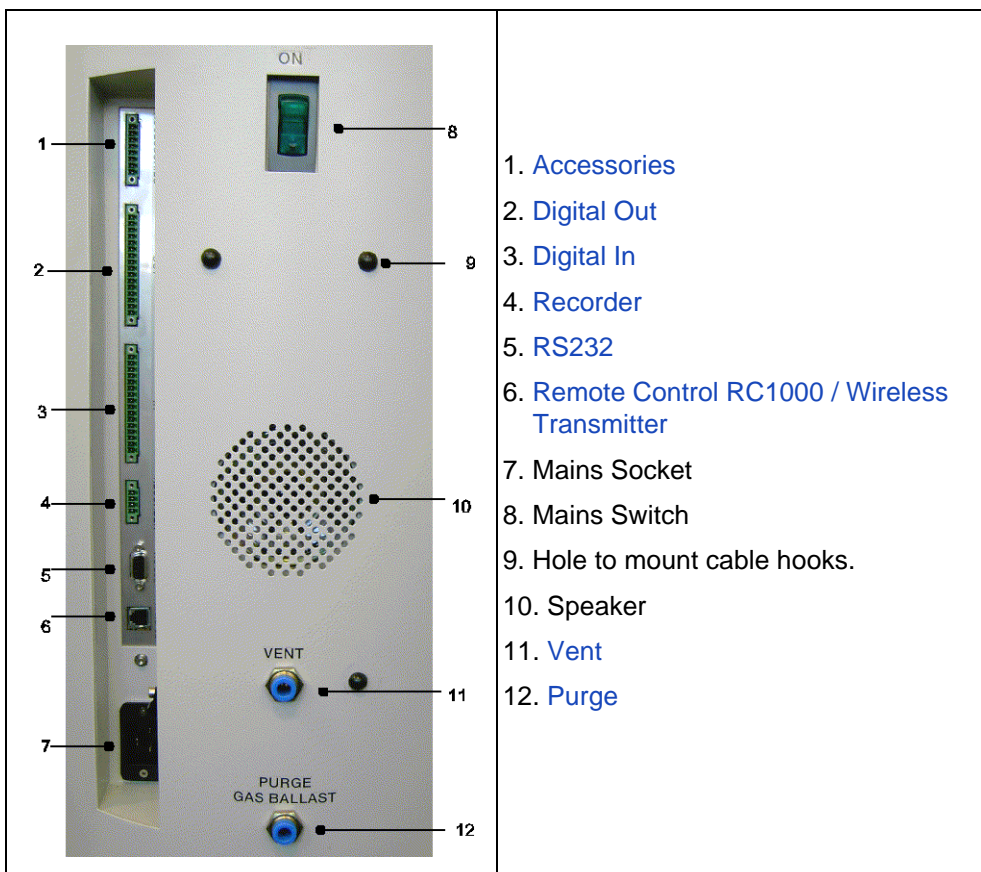

Fig. 2-6 Connections
The mains voltage rating for the UL5000 can be read off from the name plate beneath the mains socket Fig. 2-6/7 at the back side. This voltage is fixed and can not be changed.
The mains voltage is applied to the instrument via the detachable mains cable which is supplied with the instrument. A mains socket Fig. 2-6/7 is available for this purpose at the back side of the instrument.
The following accessories may be connected to this port Fig. 2-6/1:
The recorder output Fig. 2-6/4 may be used to log the leak rate, the inlet pressure and the forevacuum pressure.
This RS232 C interface Fig. 2-6/5 is wired as data communication equipment (DCE) and permits the connection of a personal computer (PC) for monitoring and data logging. The connection is made through a 9 pin sub-D socket.